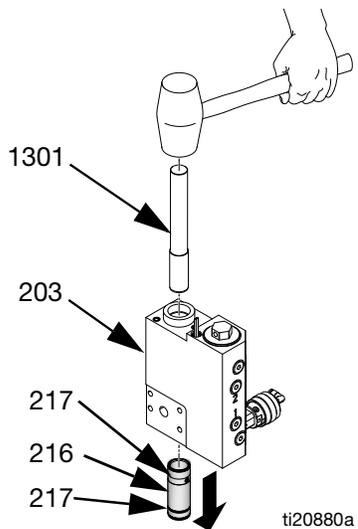

FIG. 35
14. Remove and discard cylinder seals (217). See FIG. 35.
1. Apply grease to seals (217) then install new cylinder seals (217) onto cylinder (216). See FIG. 35.